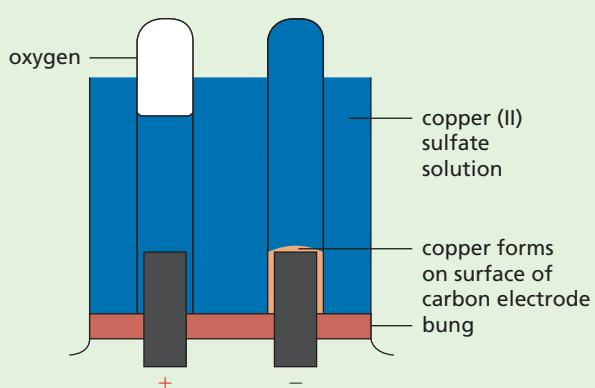

Figure 5.14 The electrolysis of copper(II) sulfate solution using inert electrodes.
Copper(II) sulfate solution ($\text{CuSO}_4(\text{aq})$) may be electrolysed using inert graphite electrodes in a cell similar to that shown in Figure 5.14. When the solution is electrolysed, oxygen gas and copper metal are formed at the anode and cathode respectively. Four ions are present in solution:
$\text{H}^+(\text{aq})$ and $\text{Cu}^{2+}(\text{aq})$ ions are both attracted to the cathode, the Cu^{2+} ions accepting electrons more readily than the H^+ ions (preferential discharge). Copper metal is therefore deposited at the cathode (Figure 5.14).